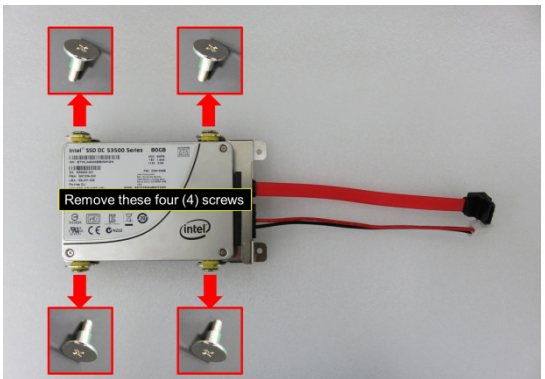

Figure 18
- 4.2.2.5 Use a Phillips screwdriver (item 1 in Table 2) to remove the four (4) screws on the HDD tray as shown in Figure 18.